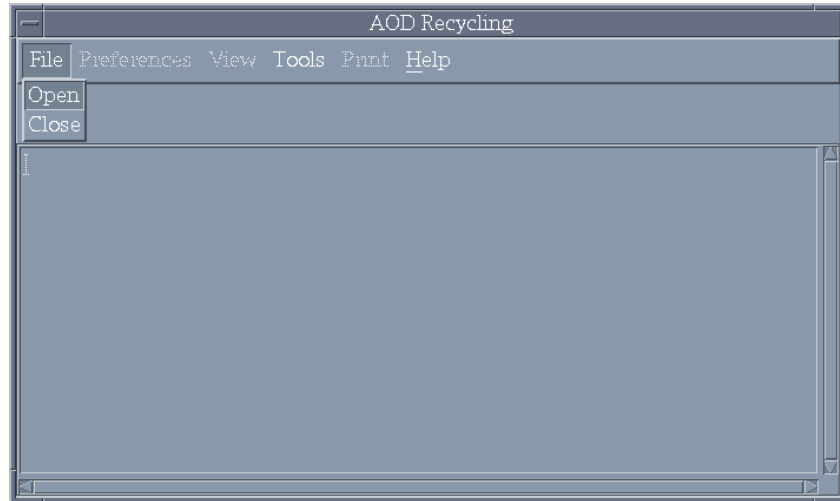

Fig. 35 – AOD recycle menu with file options
3.3.6.1.5 *AOD Recycle* — This option allows remaining space on a previously used AOD to be used for new AOD images. **Note:** any preexisting images on the AOD are lost during the recycle operation, and one superdirectory will be lost. MMC invokes the **AOD Recycling Window** (Fig. 35).